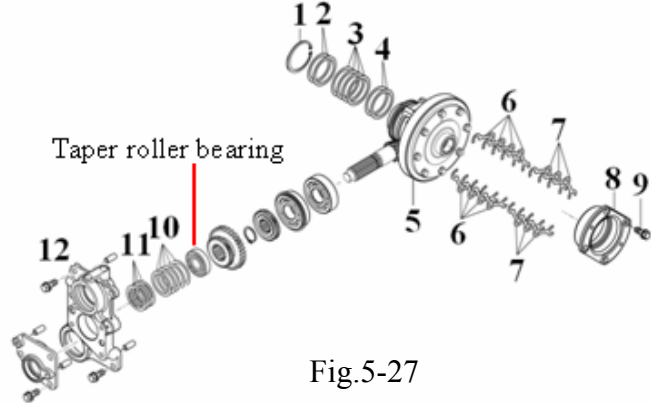

Fig.5-27
- g. Remove the metal diff case and pull out the diff assembly (Refer to the Fig.5-27)
- h. Remove the bearing(29, 31) with a puller Pull out diff pinion shaft(23) and take out diff pinions(21) and diff-side gears(26, 27).